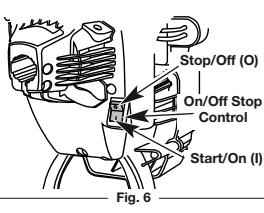

Fig. 6
- Make sure the On/Off Stop Control in the ON (I) position (Fig. 6).